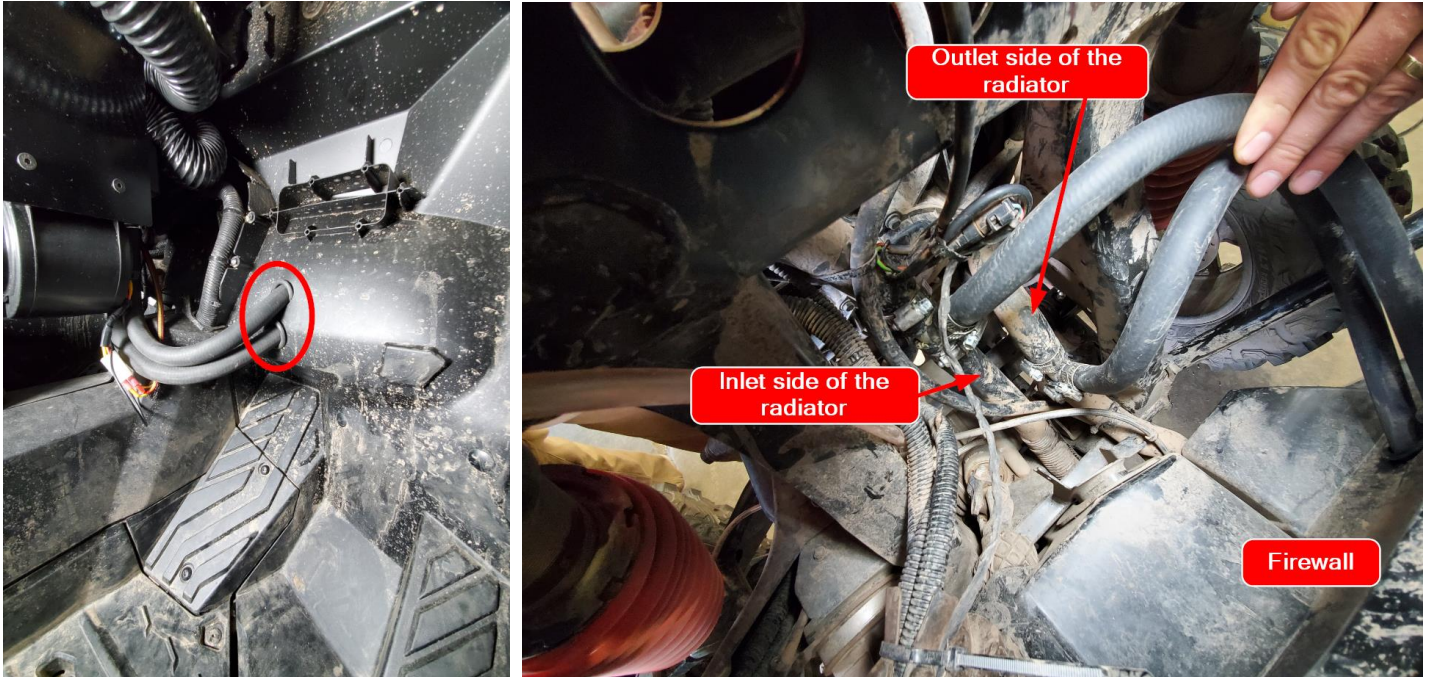

Figure 15
47. Attach duct hosing to the driver's side vent. See figure 15
49. Attach duct hosing to the passenger side vent. See figure 15